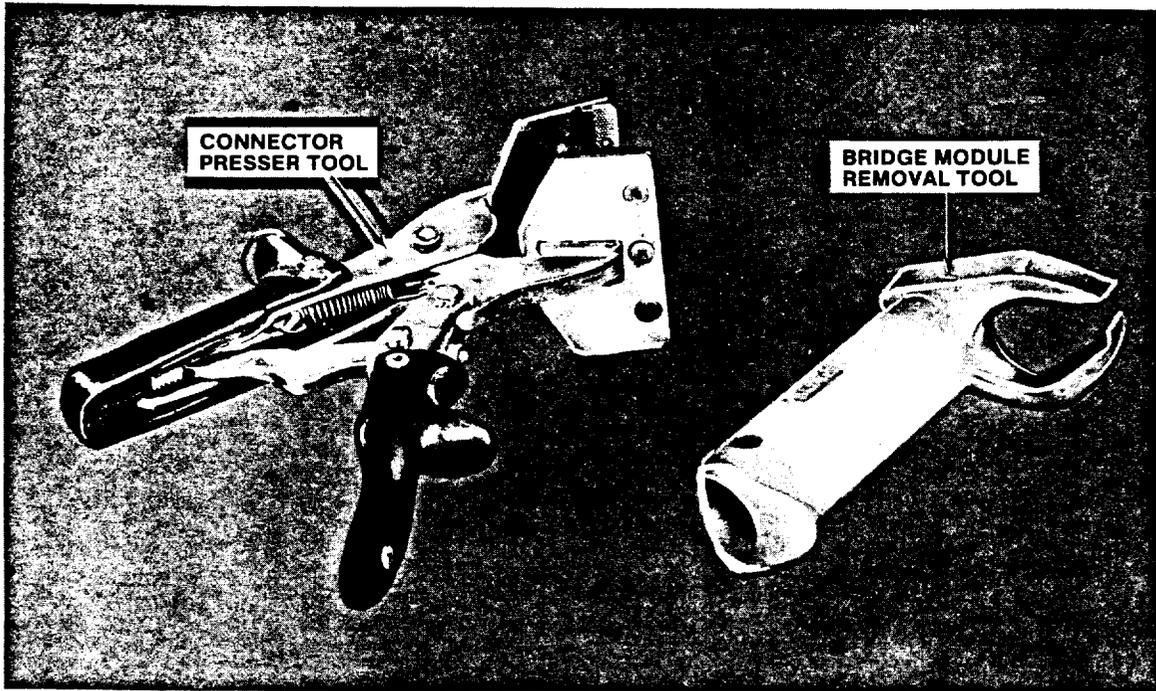

Figure 17. AT-8948L Connector Presser and AT-8927C Bridge Module Removal Tool
5.12 The AT-8948L connector presser tool is used to connect the 710-type connector bridge module (supplied as part of the 11-type stub cable) to the 710-type connector splice module on the 307-type connector (Figure 17).
5.13 The AT-8927C bridge module remover tool is used to disconnect the 710-type connector bridge module from the splice module (Figure 17).